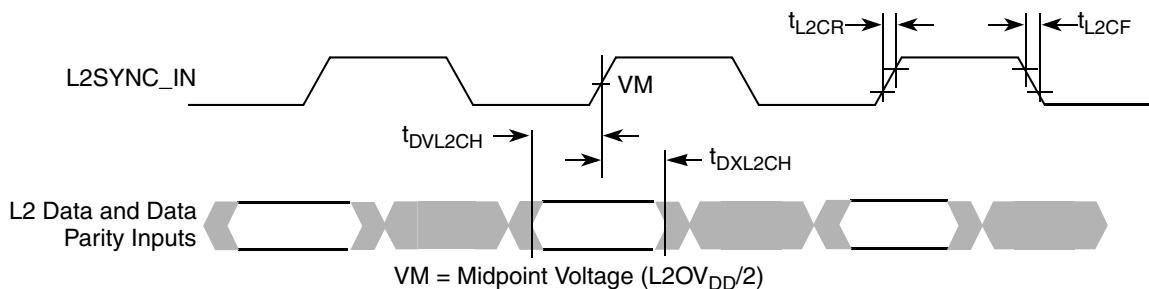
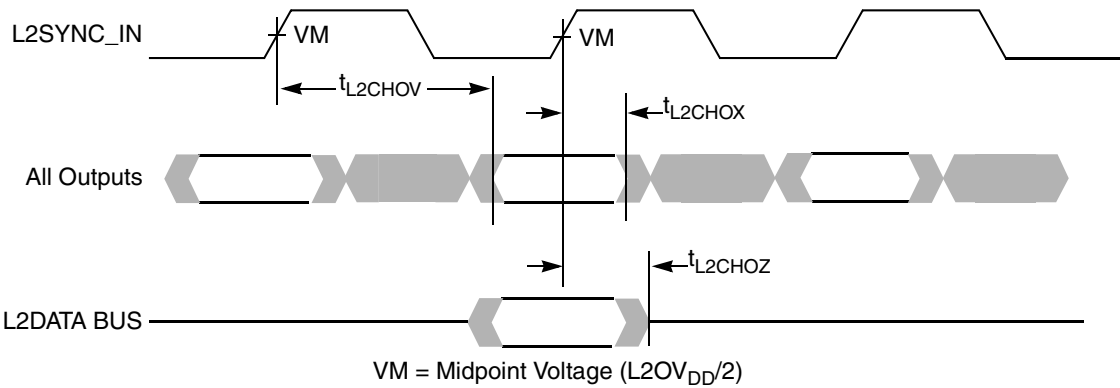
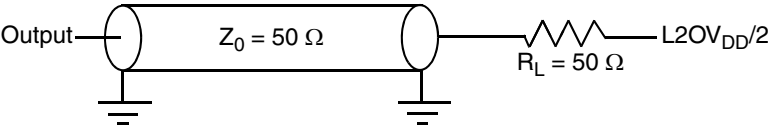

Figure 8. L2 Bus Input Timing Diagrams
Figure 9. L2 Bus Output Timing Diagrams
Figure 10. AC Test Load for the L2 Interface
Table 12 provides the L2 bus interface AC timing specifications for the MPC755 as defined in Figure 8 and Figure 9 for the loading conditions described in Figure 10.
2. All input specifications are measured from the midpoint of the signal in question to the midpoint voltage of the rising edge of the input L2SYNC_IN (see Figure 8). Input timings are measured at the pins.
3. All output specifications are measured from the midpoint voltage of the rising edge of L2SYNC_IN to the midpoint of the signal in question. The output timings are measured at the pins. All output timings assume a purely resistive 50-Ω load (see Figure 10).
Figure 8 shows the L2 bus input timing diagrams for the MPC755.
Figure 9 shows the L2 bus output timing diagrams for the MPC755.
Figure 10 provides the AC test load for L2 interface of the MPC755.